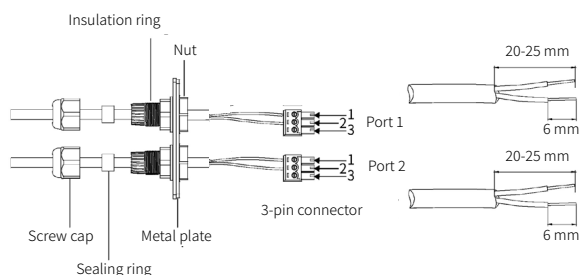

Fig. 34. Terminal connection process.
2. Pass the wire through the hole and connect it to the terminal in the following order: screw cap, sealing ring, insulator, metal plate, nut and 3/6 pin connector, as shown in Fig. 34: